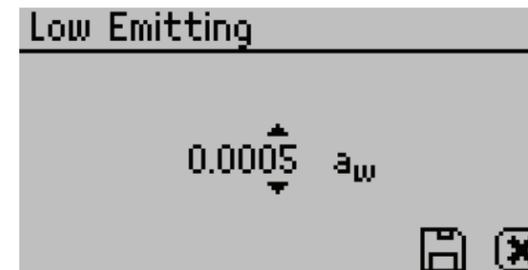

Figure 32 Low-Emitting mode
- Low-Emitting mode gives the option of speeding up test time by adjusting the equilibrium trigger value (Figure 32). This mode is for samples that are slow to equilibrate such as vegetable oils, high fat samples, and high viscosity samples.